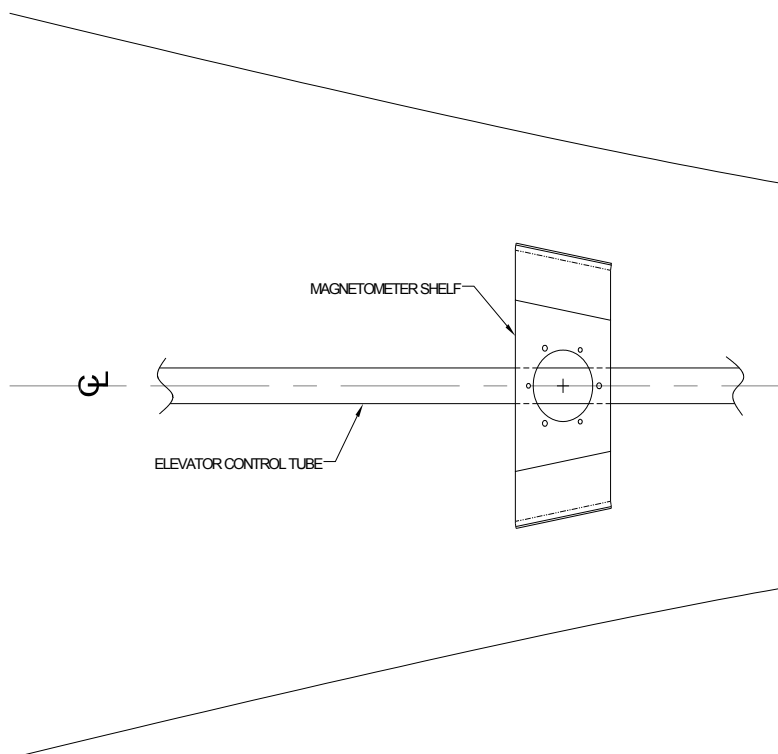

Figure A-24 Alignment Of Magnetometer Cutout With Aircraft's Forward Direction
6. The shelf installation must be fully cured before proceeding with the magnetometer installation. Using the elevator control tube as the aircraft centerline reference, project a parallel line on to the magnetometer shelf. The parallel line serves as an indication of the aircraft's forward direction, as shown in Figure A-24. The alignment of the magnetometer is critical and needs to be within 0.5° of the aircraft's forward direction.